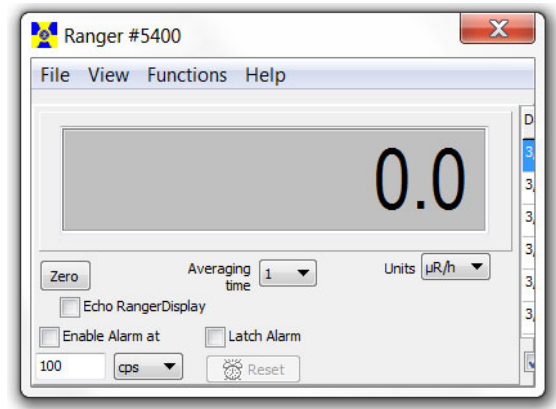

Figure 6(3)
**Show Grid** displays an ongoing collection of data based on the user selectable settings in the *View > Preferences > Grid Settings* dialog box (Figure 6(4)).